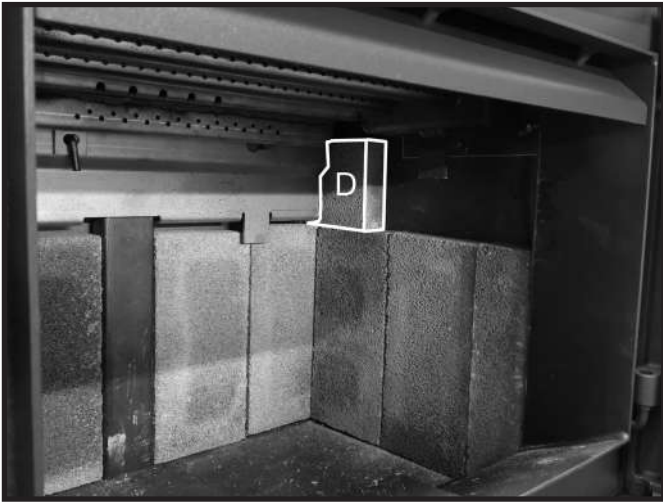

Figure 16: Small side wall firebrick in position.
1. Place a "D" firebrick on top of the previously placed "A" firebricks and slide this firebrick back toward the rear wall making sure that this firebrick tucks in behind the brick rail (Figure 16).